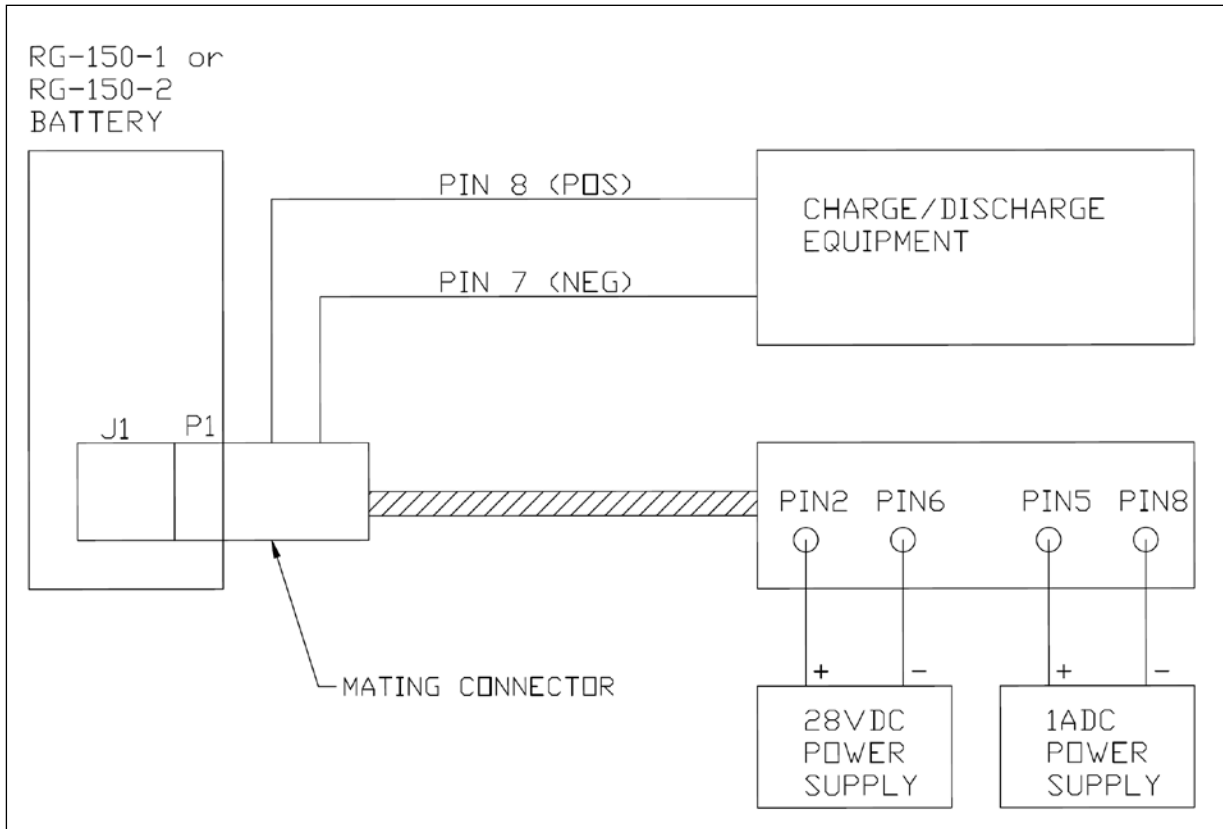

Figure 101. Test Set Up for RG-150-1 and RG-150-2 Batteries
- A. Refer to Figure 101 for testing RG-150-1 and RG-150-2 batteries.
- A. Refer to Figure 101 for testing the charging circuit of RG-150-1 and RG-150-2 batteries.